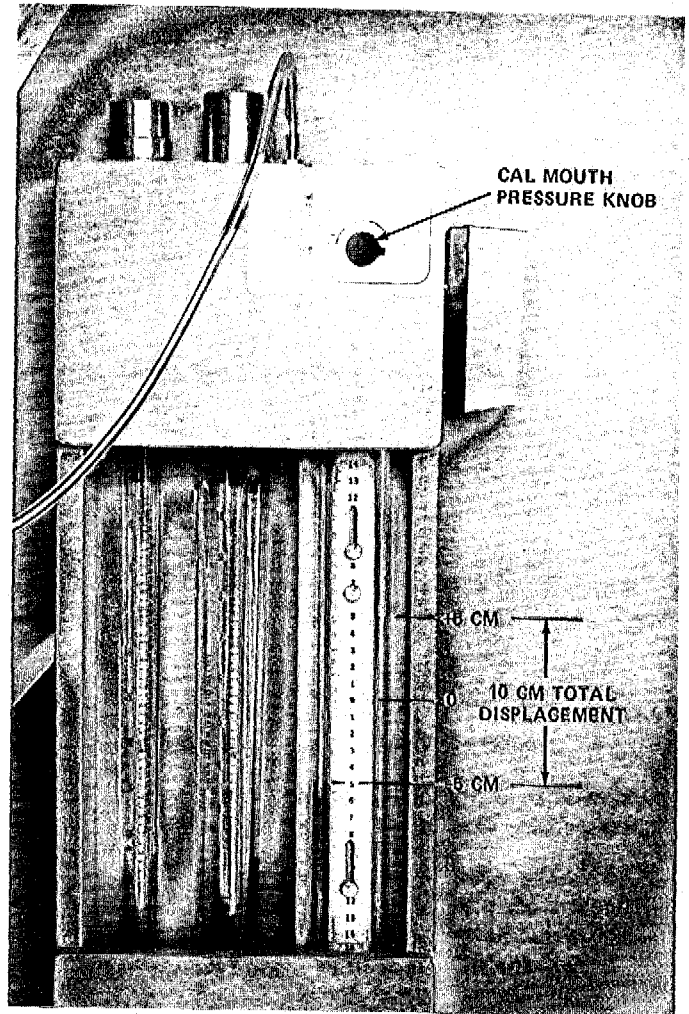

Figure 20 - Calibration of Manometer
**MOUTH PRESSURE LINE** on top of the calibration equipment box as shown in Figure 20.
C.8. Refer to Figure 20. Turn the **CAL MOUTH PRESSURE** knob to displace one water column exactly 5 cm., thus moving the other column 5 cm. in the opposite direction. This displacement produces a total pressure change of 10 cm. H2O.